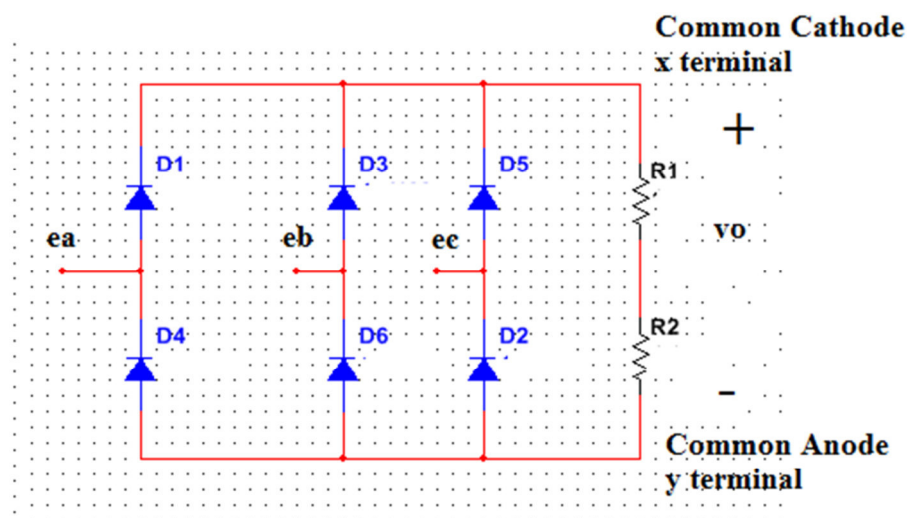

Figure 6.4: Three Phase Uncontrolled Bridge Rectifier
- Implement the circuit shown in Figure 6.4 on breadboard. Remember the neutral at wye side is not connected to any circuit node.